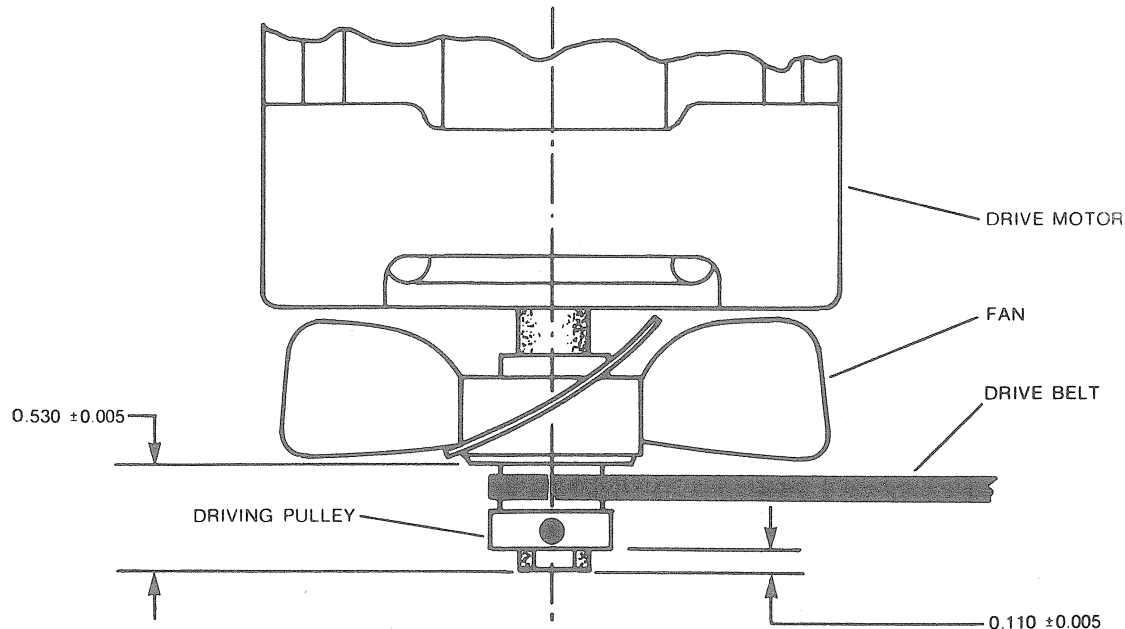

FIGURE 4-7. DRIVE PULLEY AND FAN INSTALLATION SPECIFICATIONS
2. Adjust installation of pulley to conform to the specifications shown in Figure 4-7.
Press fan onto drive motor shaft per specifications shown in Figure 4-7. Apply force at inner hub only.